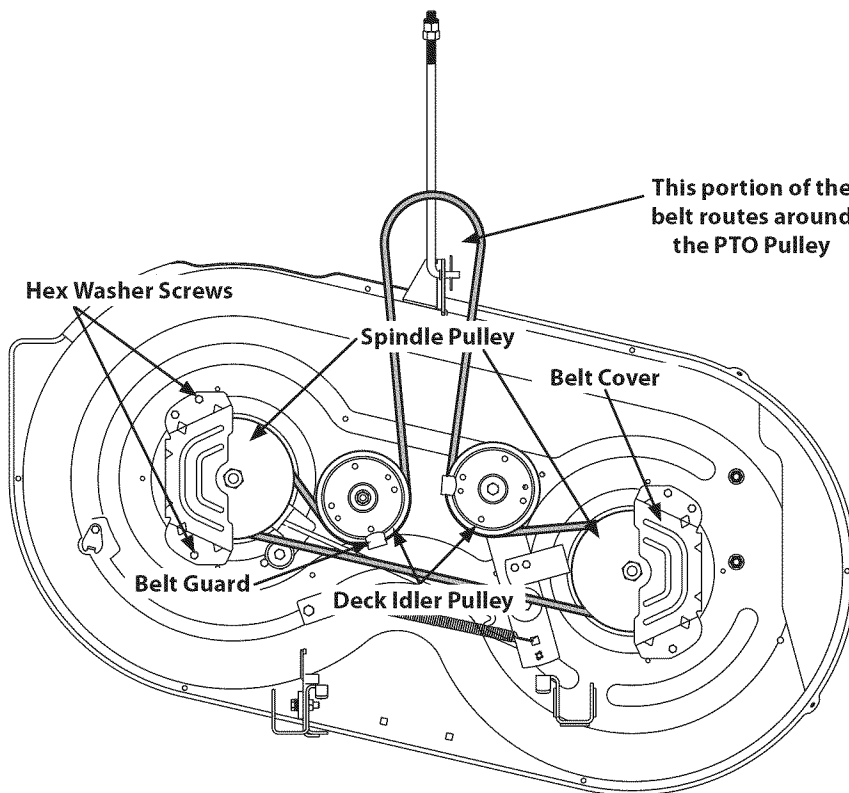

Figure 23
2. Remove the belt covers from the spindle pulleys by removing the hex screws that fasten the covers to the deck. See Fig. 23.
4. Carefully remove the deck belt from around the two spindle pulleys and the two deck idler pulleys. See Fig. 23.
5. To place the new belt, begin by routing the belt around the two outer spindle pulleys as shown in Fig. 23.
6. Then route the belt around the two deck idler pulleys as shown in Fig. 23.
9. Re-install the deck, making sure the belt remains routed around the pulleys as instructed. The complete belt routing is shown in Fig. 23.